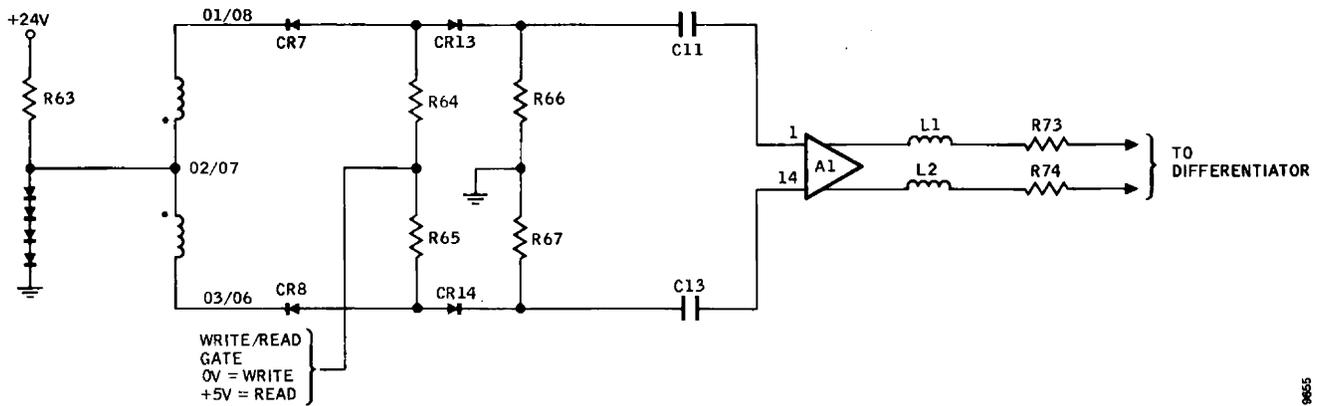

Figure 3-32. Read/Write Matrix Gate for Read
- **Read/Write Matrix -- Read Mode** -- The read/write matrix is conditioned for a read operation when the junction of R64 and R65 is at +21 volts (see Figure 3-32). This potential forward-biases diodes CR7 and CR8 and allows current to flow through either the upper or lower branch circuit.